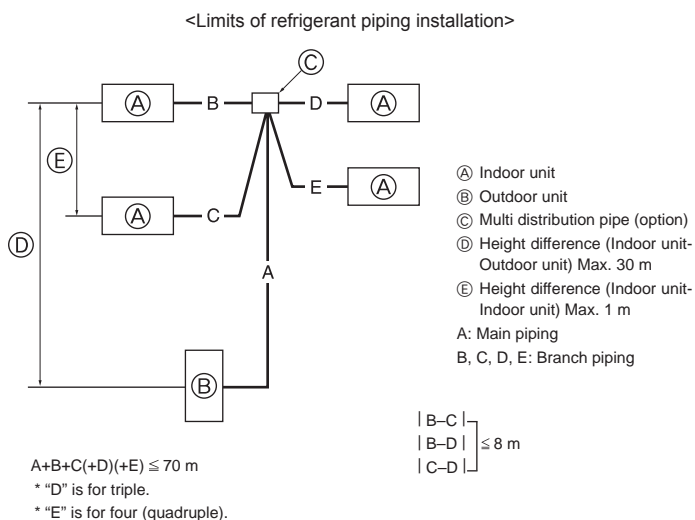

Fig. 4-8
4.7. For twin/triple/quadruple combination (Fig. 4-8)